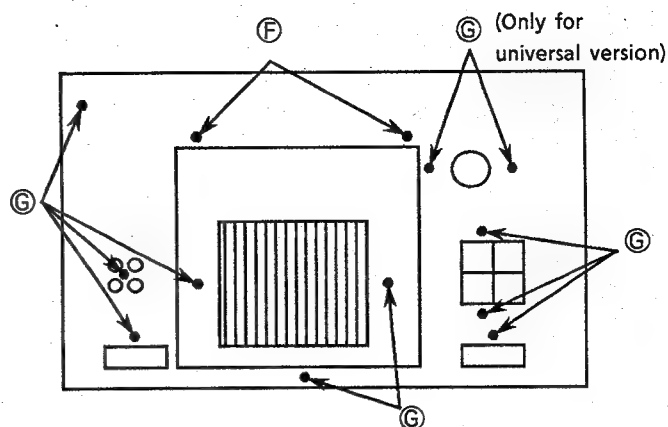

Figure 5 Rear view
1. Remove the screw ⑤ (Figure 5).
2. Remove the screws ⑥ (Figure 5).